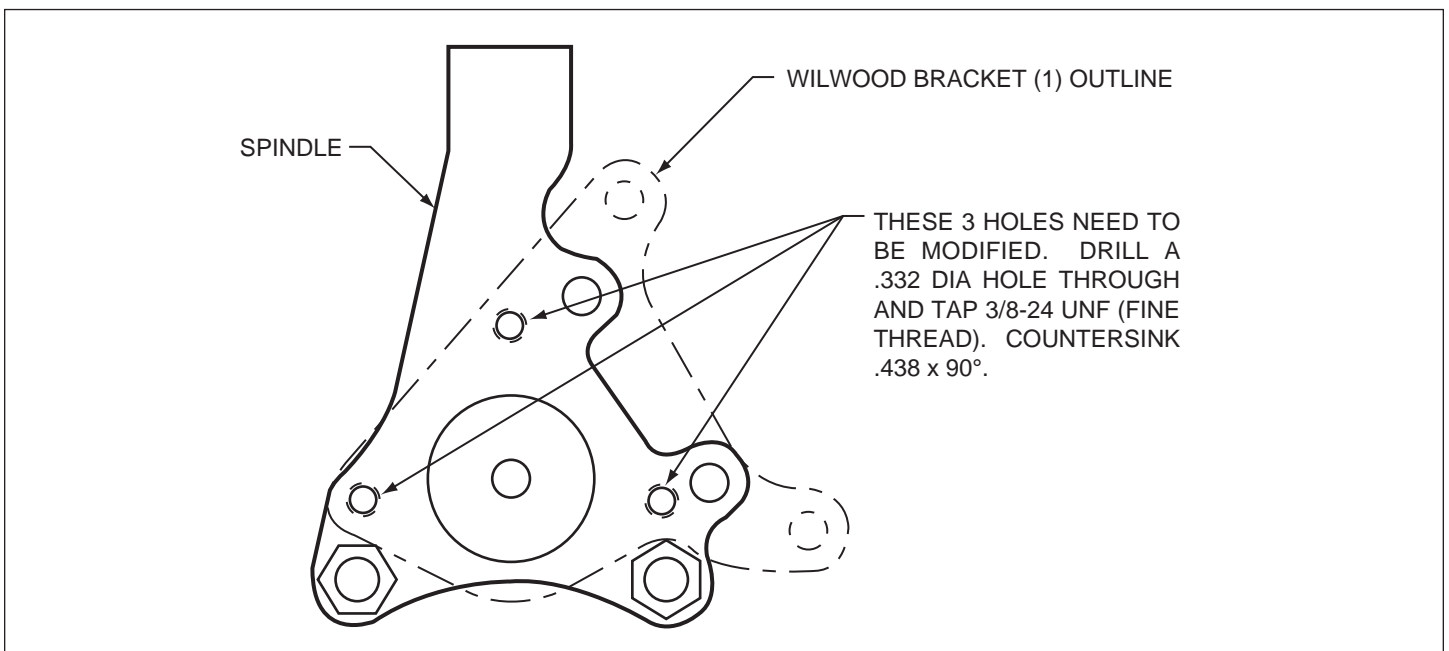

Figure 1. Steering Arm / Spindle Modifications
These modifications should be performed by a qualified machinist. Refer to Figure 1 as necessary (numbers in parenthesis refer to the parts list on page four). Only one view of the steering arm/spindle is shown, but the modifications need to be performed on both steering arm/spindles.
- Mount the adapter/rotor assembly (7/8) to the hub (4) using bolts (10) (finger tight), as shown in Figure 1. Using an alternating sequence, remove bolts one at a time, apply red *Loctite*® 271 to the threads, and torque to 45 ft-lb.